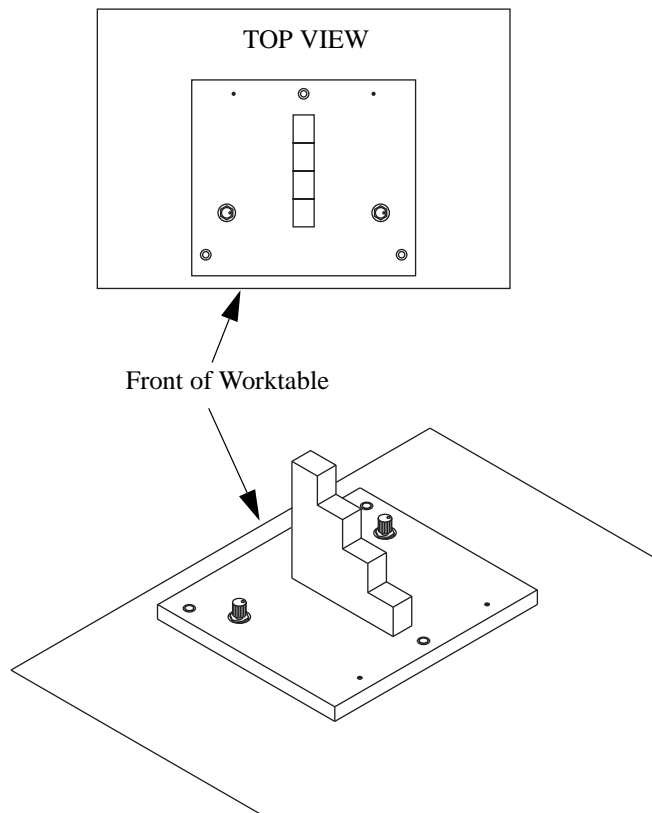

Figure A-6 Mounting the Step Gage on the Worktable
8. Temporarily mount the Z-axis step gage to the worktable as shown in Figure A-6. Make sure: